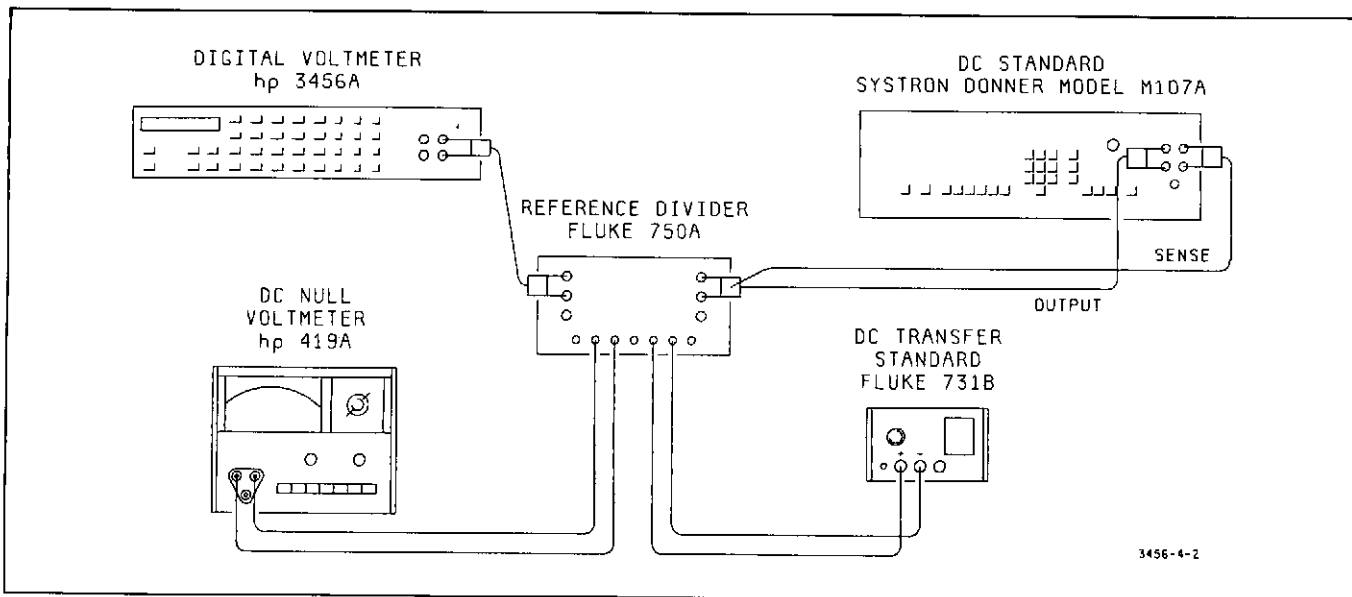
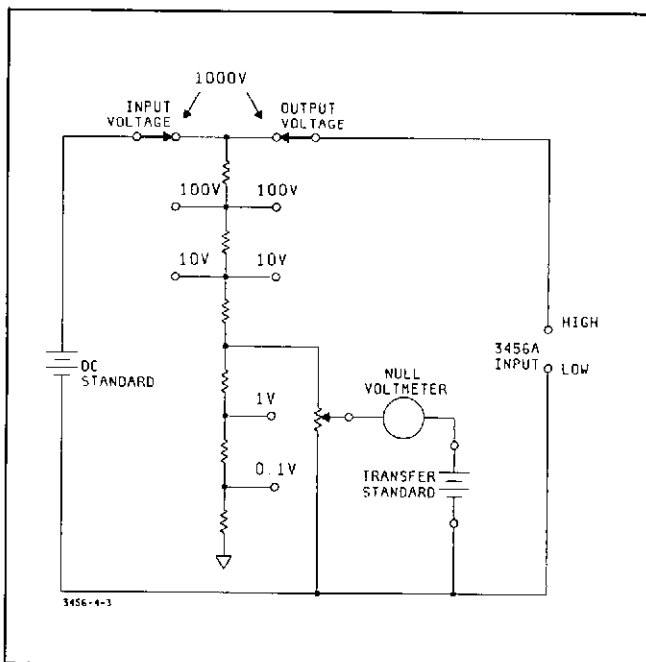

Figure 4-2. DCV Accuracy Test Set-Up.
Figure 4-3. Schematic of the DCV Accuracy Test Set-Up.
k. Using short pieces of number 20 AWG (or thinner) insulated solid copper wires, connect the Transfer Standard and the DC Null Voltmeter to the Reference Divider as shown in Figure 4-2 and Figure 4-3.
connectors, connect the DC Standard and the 3456A to the Reference Divider as shown in Figure 4-2 and Figure 4-3.